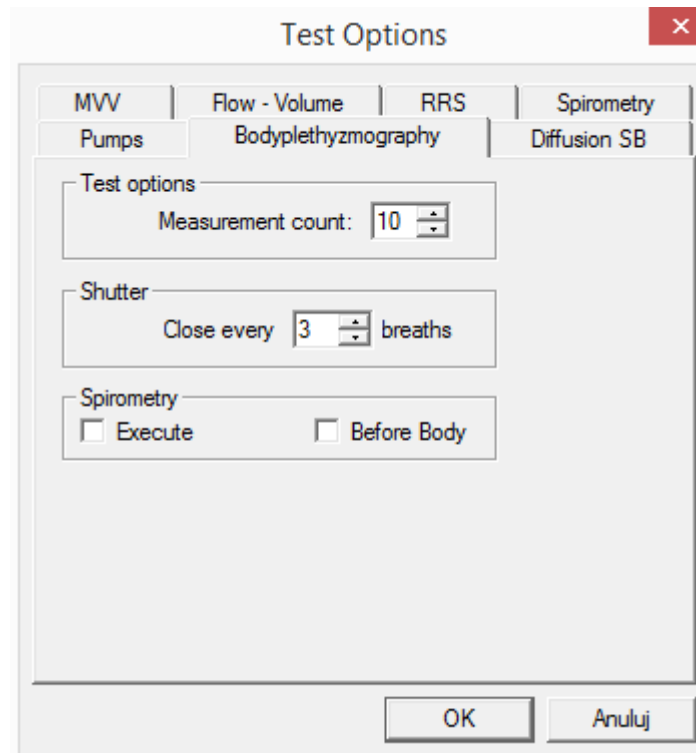

Fig. 16. Dialog box *Calibrate chamber*
The chamber is calibrated with the dialog box *Chamber calibration* (\Rightarrow Fig. 16) called up after selecting the command *Calibrate chamber* (menu *Tools*).
5. After calibration displayed will be the dialog box *Calibrate chamber* (\Rightarrow Fig. 16). If the calibration has been successful, there will appear button *Save*, used for saving the calibration result.